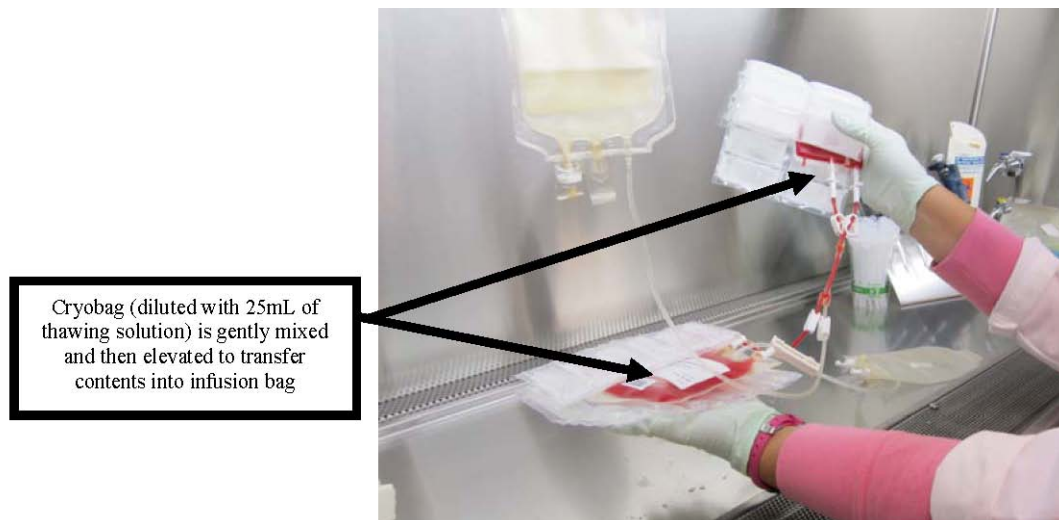

Figure 8
- e. Mix the fluids during transfer by moving the bags up and down (see Figure 8).